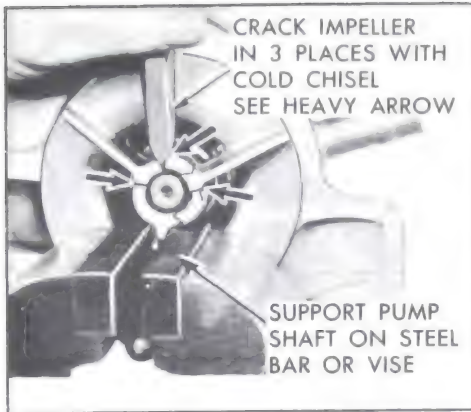

Figure 2-49A—Cracking Water Pump Impeller
1. Support impeller and shaft on anvil or in vise to avoid any shock or thrust load on bearing when impeller is cracked. Crack impeller in two or three places with chisel. See Figure 2-49A.